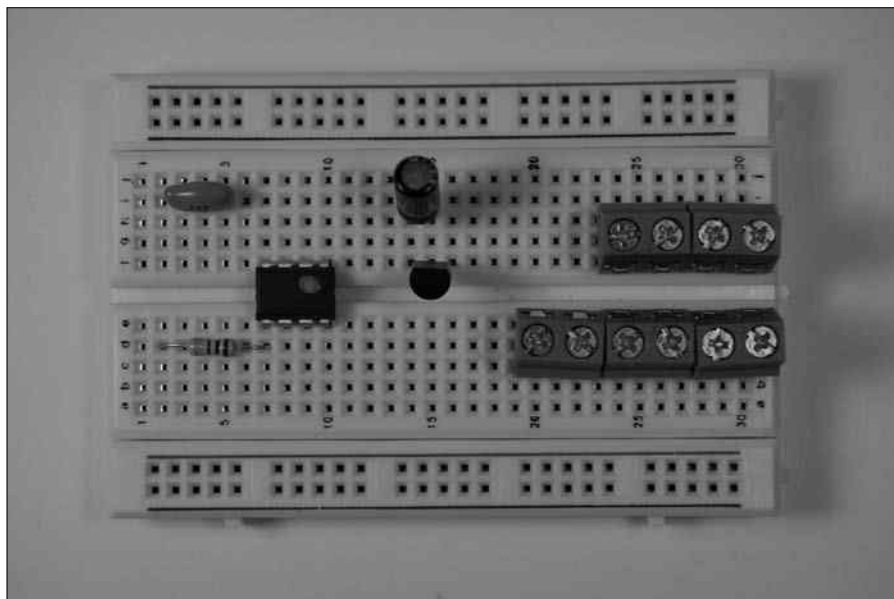

Figure 11-9:
2. Place five terminal blocks on the breadboard, as shown in Figure 11-9.